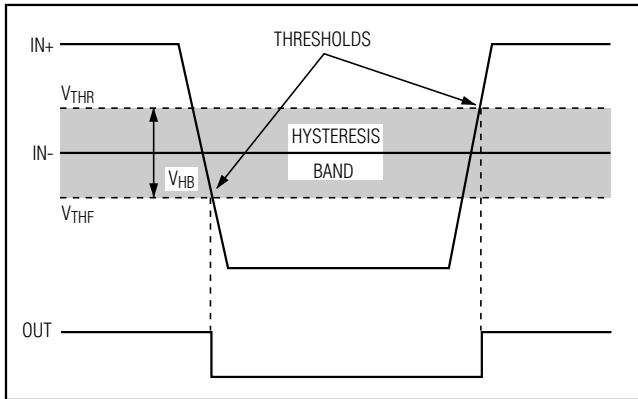

Figure 2. Threshold Hysteresis Band
**Note 3:** The hysteresis-related trip points are defined as the edges of the hysteresis band, measured with respect to the center of the band (i.e.,  $V_{OS}$ ) (Figure 2).
The hysteresis in a comparator creates two trip points: one for the rising input voltage ( $V_{THR}$ ) and one for the falling input voltage ( $V_{THF}$ ) (Figure 2). The difference between the trip points is the hysteresis ( $V_{HB}$ ). When the comparator's input voltages are equal, the hysteresis effectively causes one comparator input to move quickly past the other, thus taking the input out of the region where oscillation occurs. Figure 2 illustrates the case in which IN- has a fixed voltage applied, and IN+ is varied. If the inputs were reversed, the figure would be the same, except with an inverted output.